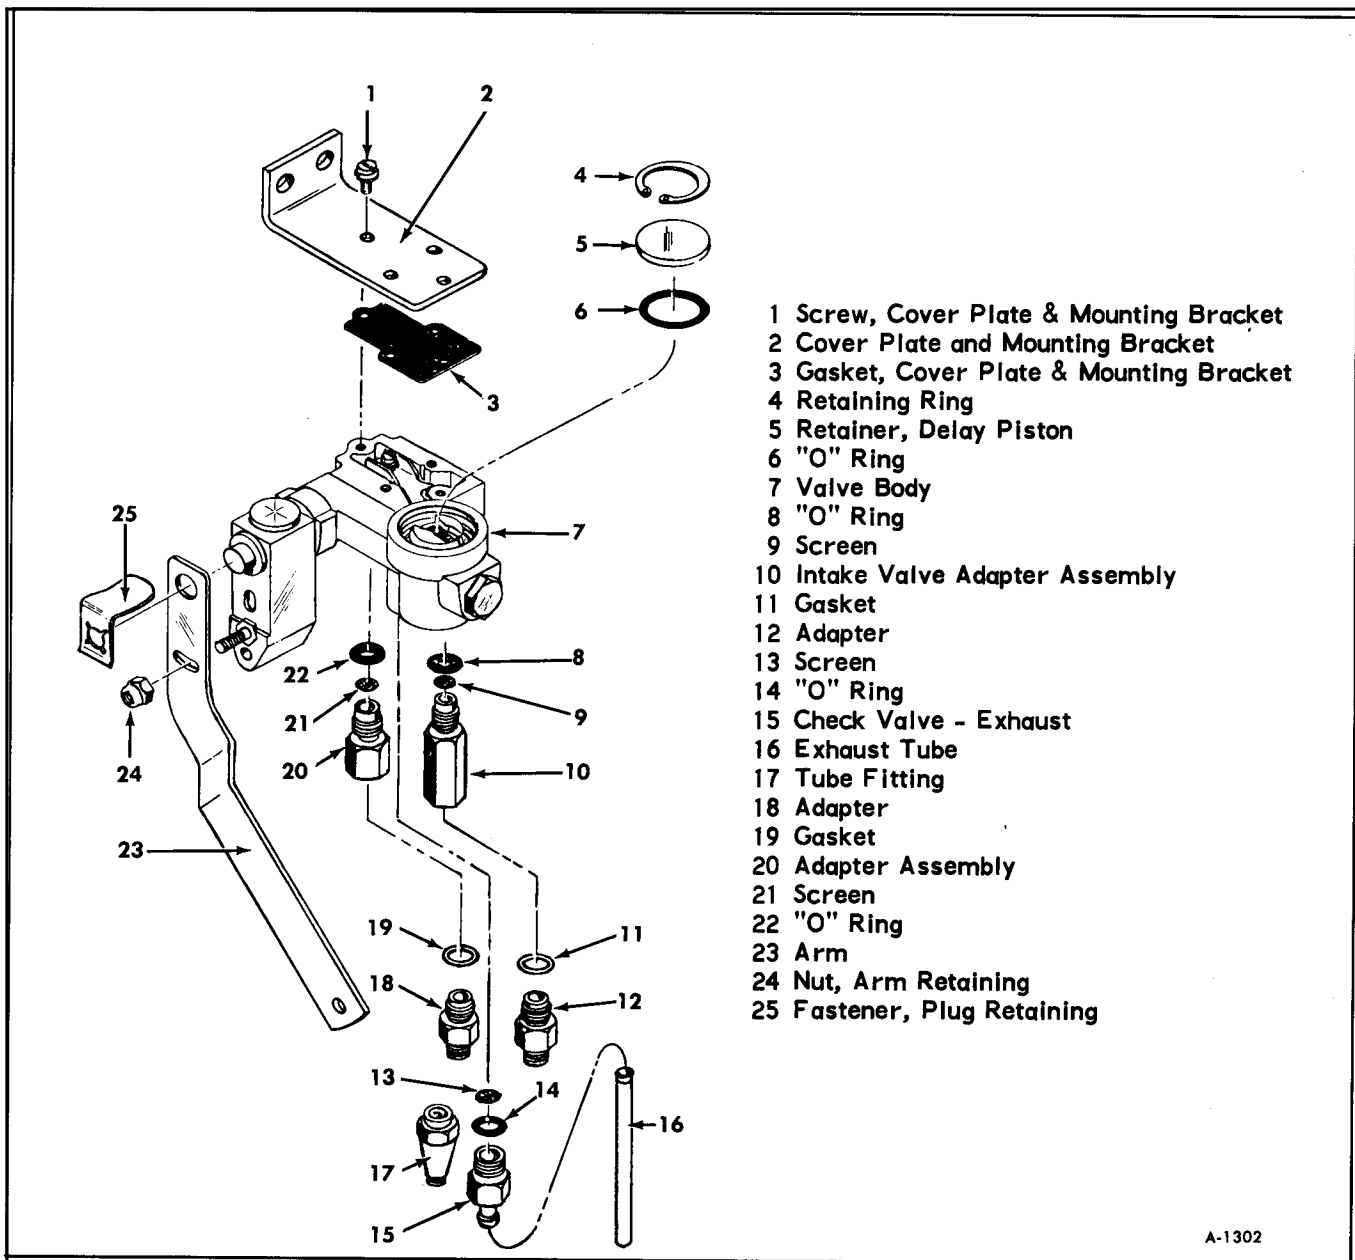

Figure 49—Height Control Valve
IMPORTANT: Height control valve-overhaul will be limited as shown in Figure 49. If repair procedures require replacement of valve body be sure
to install new "O" rings and screens, as shown in Figure 49.
3. Remove exhaust fitting (15, figure 49) and exhaust screen (13, figure 49) from control valve.
NOTE: (Refer to figure 49.) After obtaining proper valve adjustments, install valve cover using new rubber gasket (3). Install new screen (21), in bellows port, then using new O-ring (22), install outlet adapter (20) into bellows port. If screen (13) was removed from exhaust port, install new screen and exhaust fitting (15).